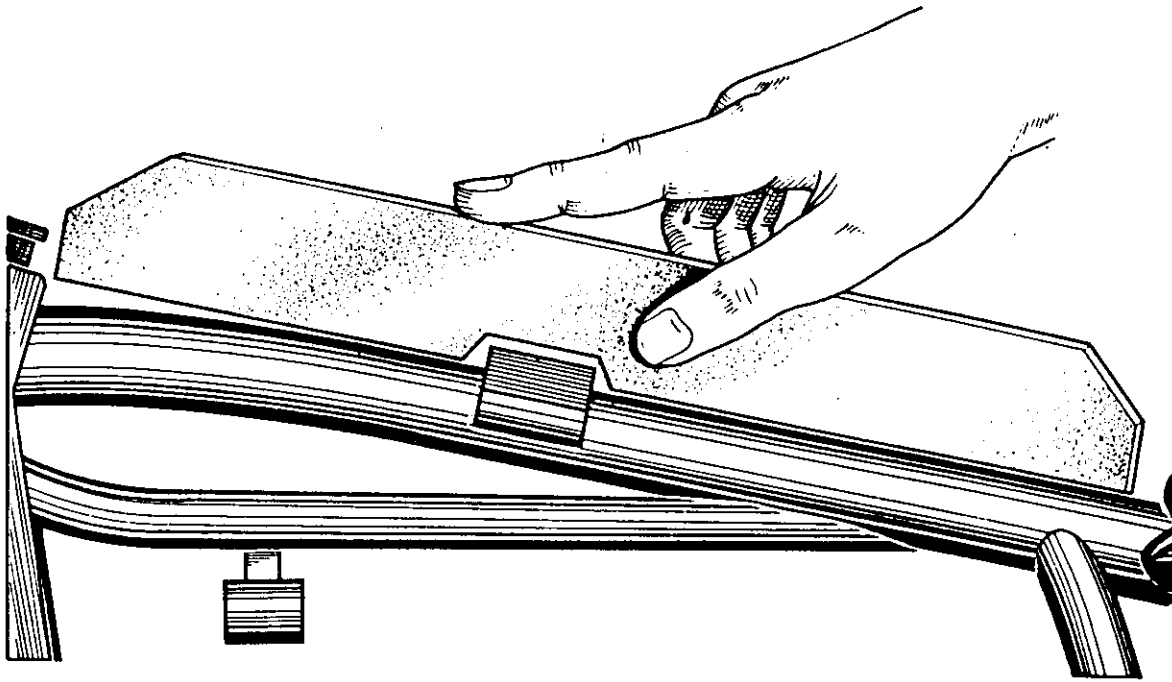

FIG. D.4. Showing bent top tube.
Sometimes if the machine has suffered a frontal impact, the main tube will be parallel at points (A) but will be bent as shown in Fig. D.4. The straight-edge can be made quite easily from say, a piece of good quality hardboard but the checking edge must be quite straight.